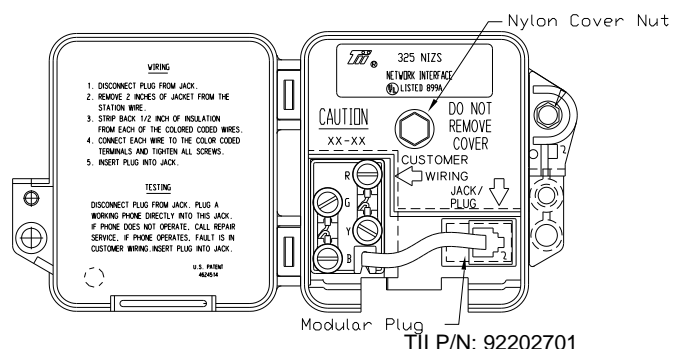

Figure 1
- b) Open the hinged door on the face of the unit and unplug the modular plug from the jack (See Figure 1).
- c) Remove the cover assembly from the base by loosening the nylon cover nut and then pulling the cover assembly away from the base (See Figure 1).